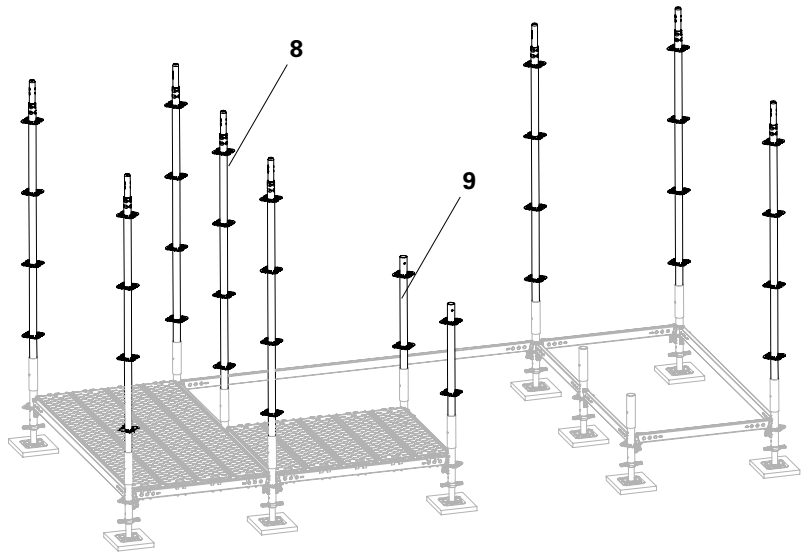

Fig. A8.03
1. Fit 8 x Standard UVR-2 200 (**8**) and 2 x UVR-2 100 (**9**) in the base standards as shown in the figure. (Fig. A8.03)